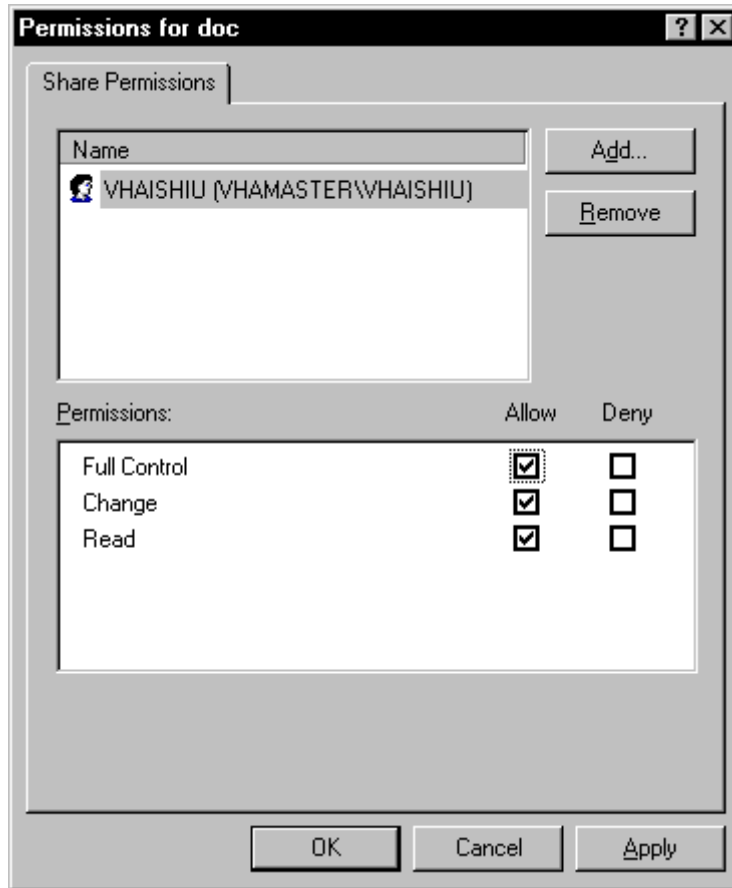

Figure 12-5
8. Make sure the check boxes are selected in the “Allow” column for “Full Control”, “Change” and “Read” (Figure 12-5).